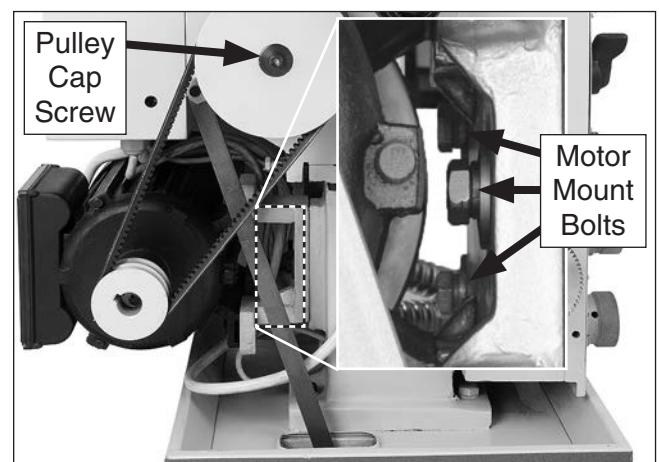

Figure 106. Pulley cap screw.
3. Loosen the motor mount bolts (**Figure 106**) and remove the belts.
4. Have another person step on the brake pedal to lock the pulley in place, and remove the pulley cap screw shown in **Figure 106**.